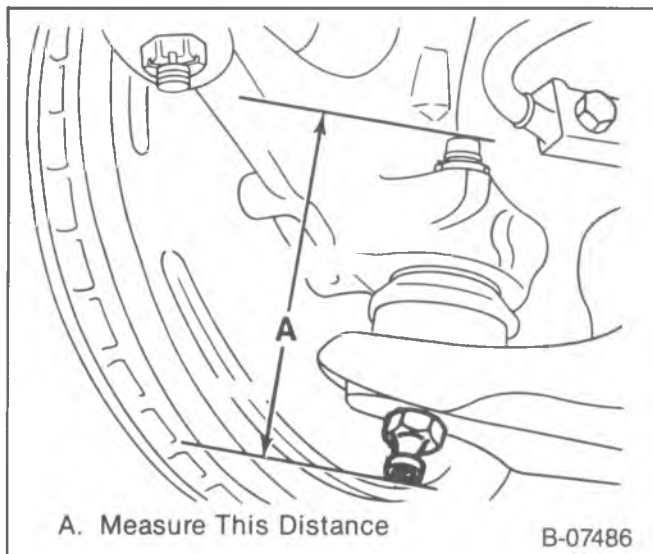

Figure 18—Inspecting the Lower Ball Joint
2. Measure the distance between the tip of the ball joint stud and the tip of the grease fitting below the ball joint (figure 18).